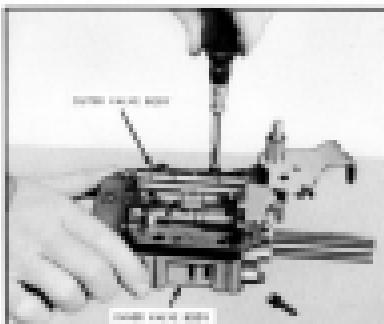

Fig. 428. Removing Diverter Valve Body Screws
3. Remove two screws holding inner and outer valve body castings together, using a small screw driver. (Fig. 428)